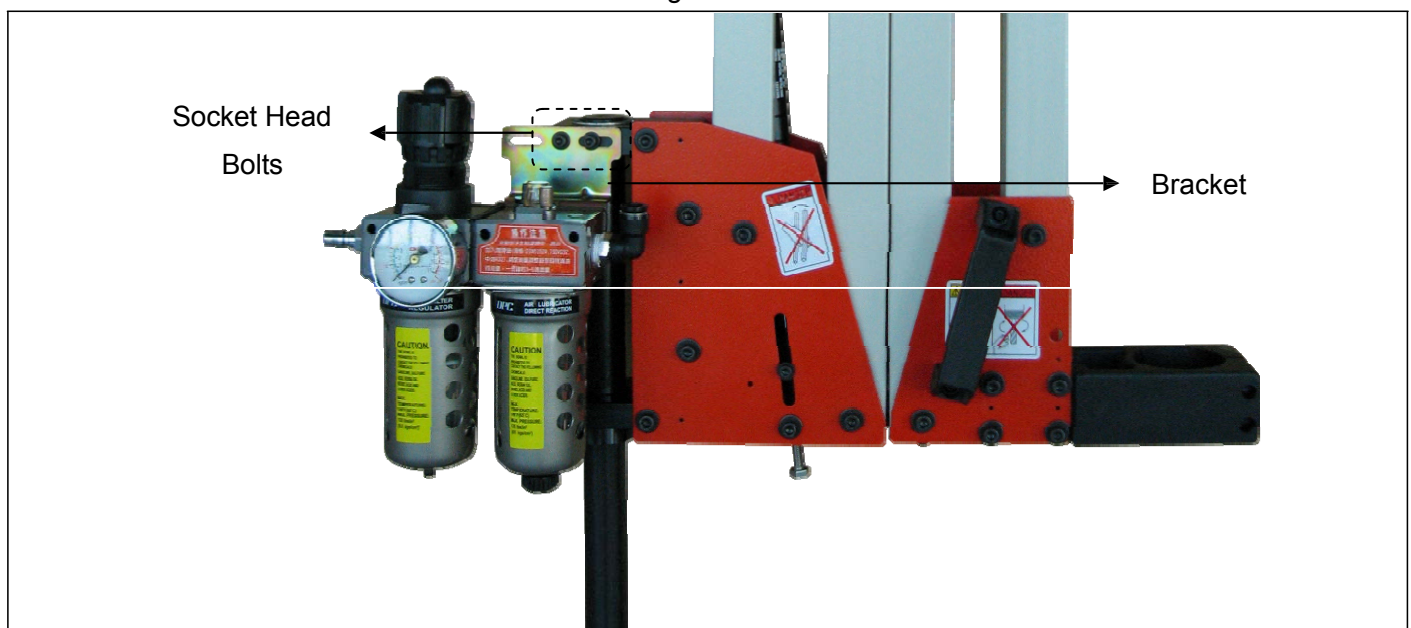

Figure 7-7
- (3) Attach mounting bracket to the back of air unit body with two nuts, and replace front cover (see Figure 7-7).
- (4) Secure air unit to the slanted arm using socket head bolts provided on slanted arm. Attach bracket using center hole and right slot of bracket (see Figure 7-7).